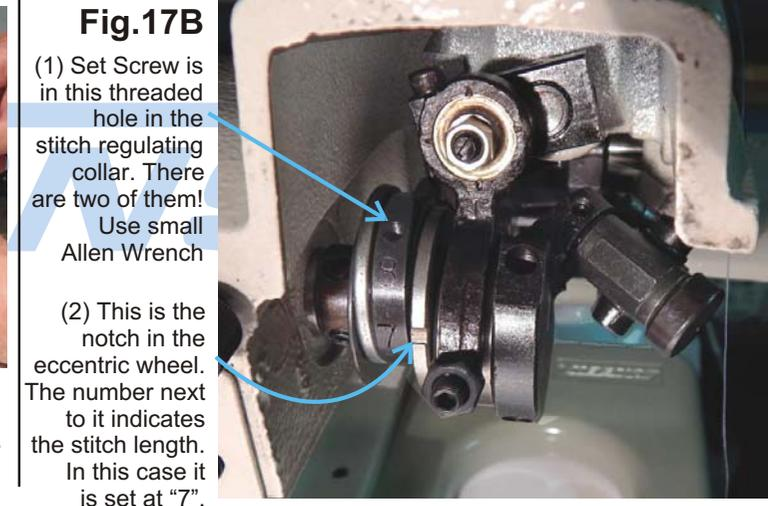

Fig.17B
Inside, Loosen the two set screws (1) in stitch regulating collar. You can see one in Fig.17B. You can see the other one by Rotating the Gray Handwheel on the side of the machine 1/3 of a turn clockwise. You are best off loosening that one first. Then go back and loosen the one next to the number "8" so as soon as it is loose, you can make the adjustment. Now you should be able to turn the collar until desired stitch length number is lined up next to the indicator notch (2) in the eccentric wheel. Then, tighten both screws (1) securely.